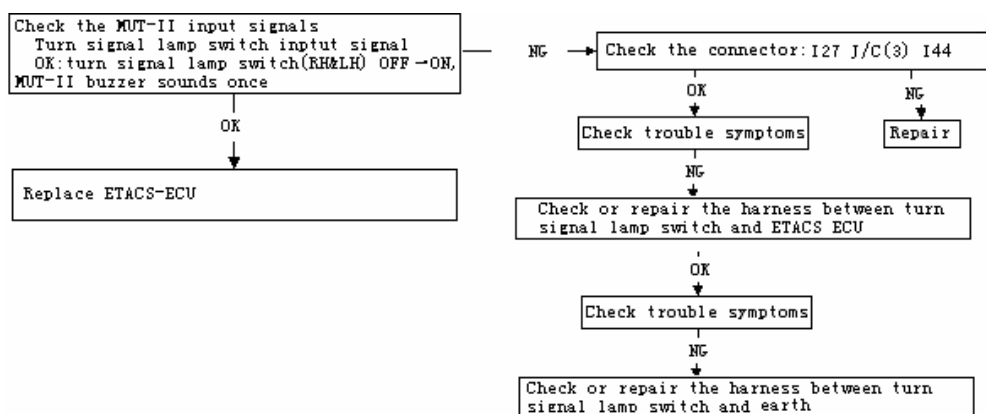

Fig 20-53
(5)Checking procedure No.5 as table20-15 and fig20-53.